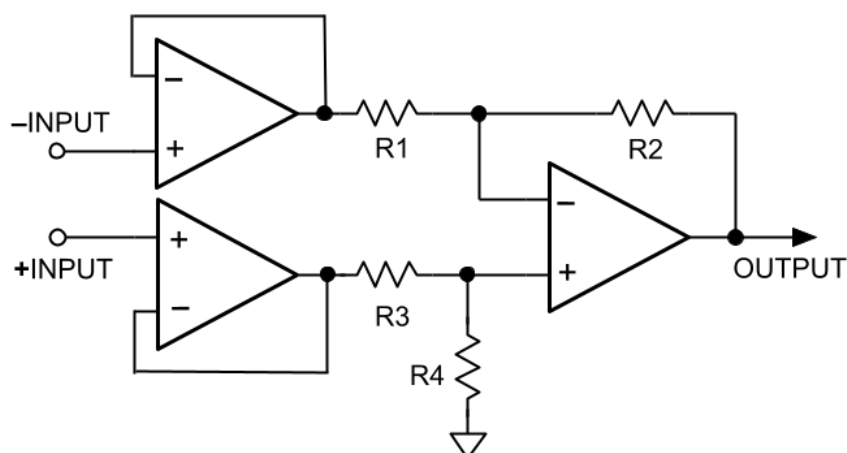

Figure 2: Simple Instrumentation Amplifier
The most common work-around to deal with this lack of matching is to buffer each of the two inputs with op-amps. These two op-amps can be configured for unity gain or more, as long as the gains and offset voltages are closely matched. Such a configuration is an instrumentation amplifier (IA) and is shown in Figure 2.
The IA appears to solve the problems cited above. It does not completely. Although not shown in Figure 2, $-INPUT$ and $+INPUT$ must have resistors connected to ground to supply a path for the op-amps input bias current. The resistors' values can be large (perhaps in the many $k\Omega$ range) and must be closely matched. To the extent there is a mismatch in resistance, CMRR is degraded. As before, further degradation occurs due to the parasitic capacitance present both between the inputs and ground. Any capacitance mismatch results in a degradation of CMRR.